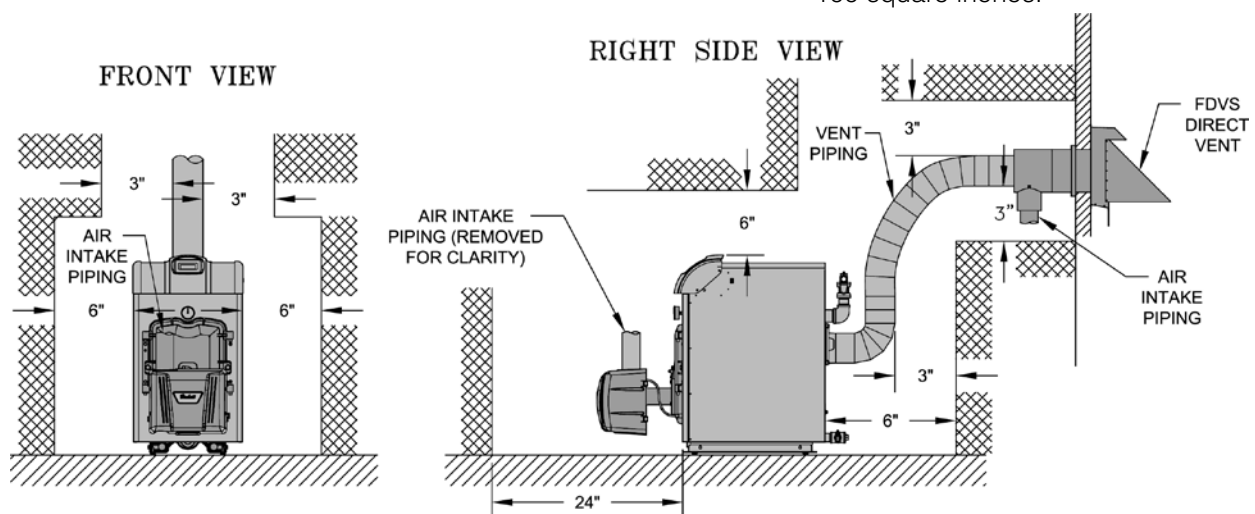

Figure 2B: Direct Vent Boiler - Minimum Installation Clearances To Combustible Materials (Inches)
- 24" for rear smokebox cleaning and disconnecting vent pipe from appliance adapter for servicing (if required) - **Direct Vent** (see Figure 2B).